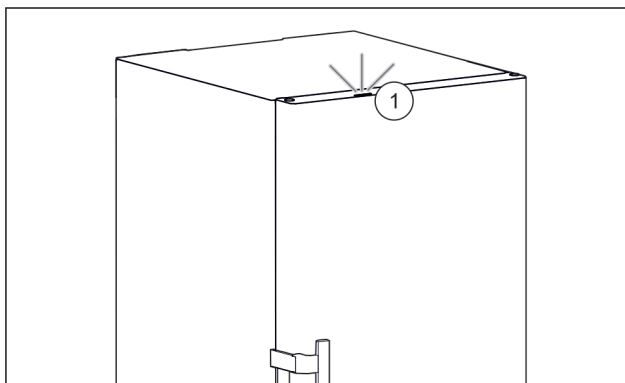

Fig. 90 Active status light when the door is closed
- ▶ Status light Fig. 90 (1) is activated.